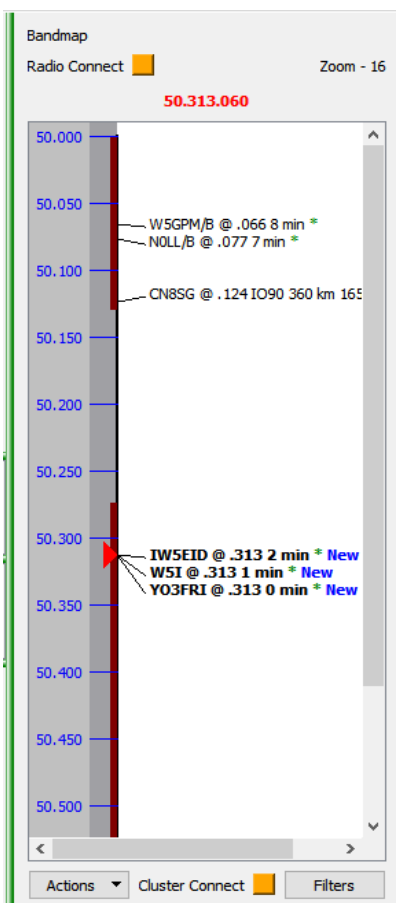

Figure 139 – Bandmap display
An example display is shown in Figure 139. **Beware:** if you don’t see anything, check your filters
To vary the zoom in order to focus on areas of interest use the scroll wheel¹³⁰ while hovering over the grey frequency bar. The current zoom setting (- 16, the least zoom, in Figure 139) is displayed in the top right of the panel. The scroll bar on the right can be used to move within the extended display thus created, or the scroll wheel while hovering over the white portion of the panel¹³¹.
- The current rig frequency is indicated by the black ‘play’ symbol (‘dial cursor’ on 144.290 in Figure 139). If this symbol turns red it indicates that it is a frequency/mode pairing that does not match the bandplan.
- If the dial cursor is not viewable, click the dial frequency at the top of the panel (144.290 at top of Figure 139) to bring that frequency back into the viewport.